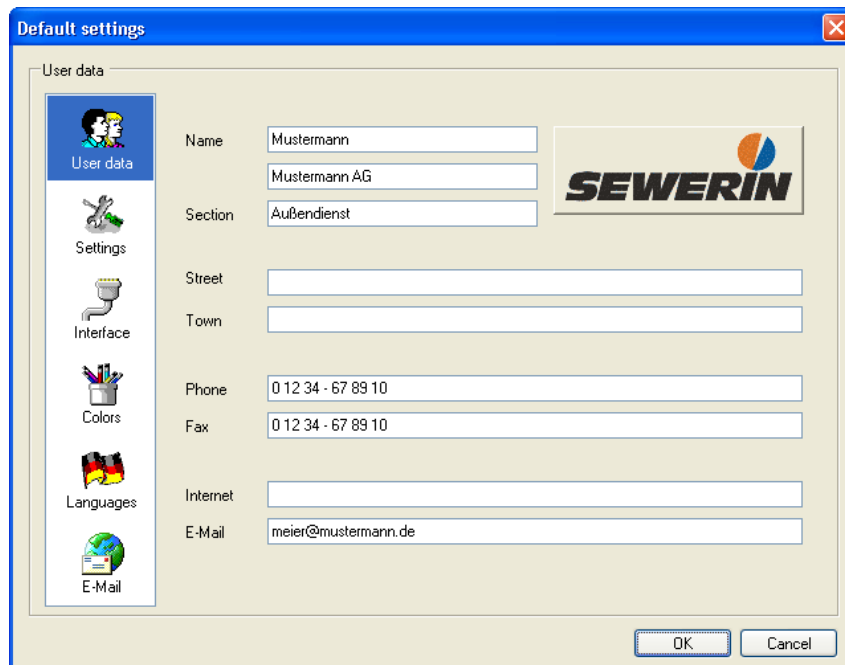

Fig. 62: **Default settings** window with User data tab
- Click on **User data** in the vertical tab selection area of the **Default settings** window (fig. 62).
In the right top corner of the **Default settings – User data** tab (fig. 62); you find the logo which will be displayed in the printouts (distribution lists, measurement data printouts).
- Click on the logo displayed on the **Default settings – User data** tab (fig. 62). The **Select your company logo** dialogue appears.
- Click on **Settings** in the vertical tab selection area of the **Default settings** window (fig. 62).
- Click on **Interface** in the vertical tab selection area of the **Default settings** window (fig. 62).
- Click on **Colors** in the vertical tab selection area of the **Default settings** window (fig. 62).